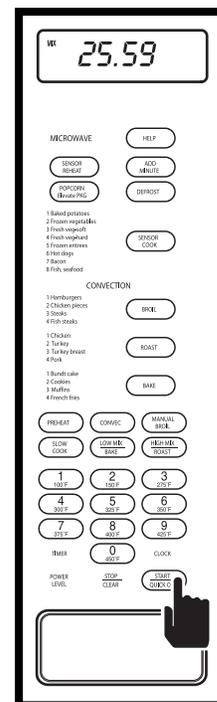

Figure 3-93. Press QUICK ON/START Key
5. Press the QUICK ON/START key. (See Figure 3-93)